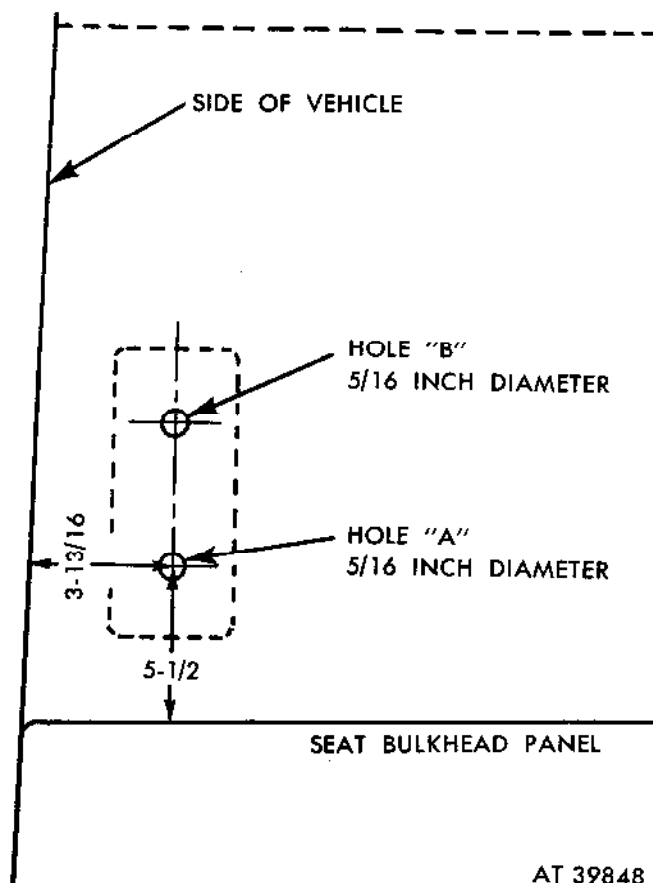

Figure 3-38. Mounting bracket hole locations (left side).
(1) Position rifle mounting bracket (13) on the vehicle floor as indicated in figure 3-38.
(2) Locate position for hole A by measuring on the vehicle floor from the driver's seat bulkhead panel and the vehicle side panel as indicated in figure 3-38.
(3) Mark center for hole A. Remove bracket and drill a 5/16 inch diameter hole through vehicle floor.
(4) Install and secure rifle mounting bracket to the vehicle floor with capscrew (12) lockwasher (8) and nut (9).
(5) Tighten the nut efficiently to hold the mounting bracket in the position indicated in figure 3-38.
(6) Using the mounting bracket as a guide, drill a 5/16 inch diameter hole through the vehicle floor for hole B.